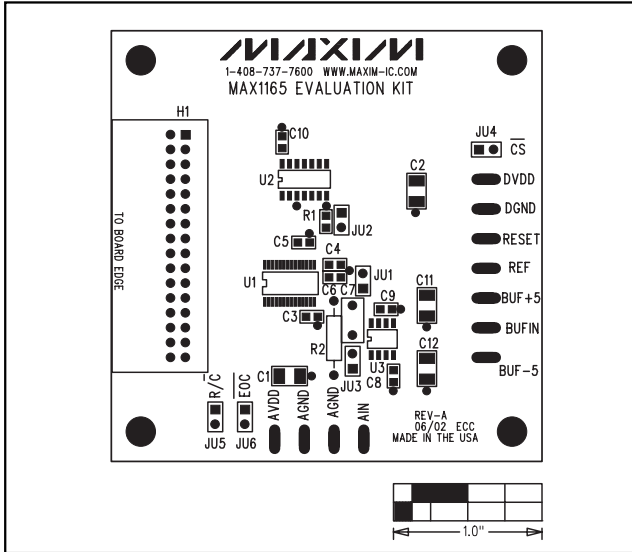

Figure 2. MAX1165 EV Kit Component Placement Guide—Component Side
- 4) Configure the pattern generator to produce the appropriate read/convert (R/\overline{C}) and conversion start (\overline{CS}) waveforms. Refer to Figure 2 in the MAX1165 data sheet.